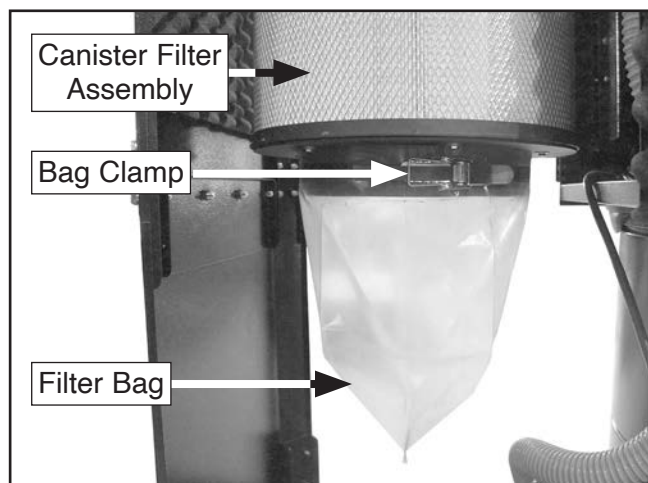

Figure 84. Filter bag attached to canister filter assembly.
15. Place filter bag around bottom of canister filter assembly and secure with bag clamp (see **Figure 84**).